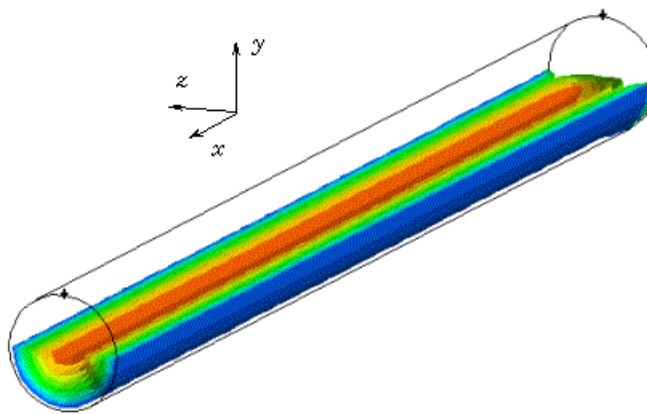

Figure 9.5.7: Velocity Contours on a Plane, **Halfspace (-)** option
The plane object shown in Figure 9.5.7 is defined using the **Halfspace (-)** option. As a result, **FlowLab** displays results for the region of the pipe located below the cutting plane.
You can also combine **Halfspace** options when creating or modifying plane objects. If you specify both the (-) and (0) **Halfspace** options for the plane postprocessing object shown in Figure 9.5.7, **FlowLab** displays results for: